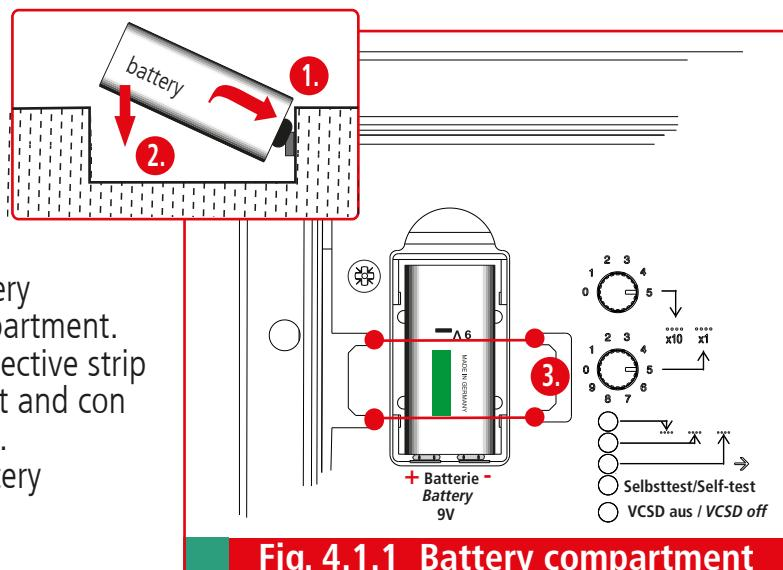

Fig. 4.1.1 Battery compartment
- ☛ To remove the battery, take out the O-ring first and then tilt out the battery (see Fig. 4.1.1, page 11).
VCSD is supplied with a 9V block battery (Part No. 911 009) in the battery compartment. Before commissioning remove the protective strip from the +/- poles of the battery, insert and connect the battery as shown in Fig. 4.1.1. Re-attach ③ the O-ring to fix the battery (see Fig. 4.1.1).